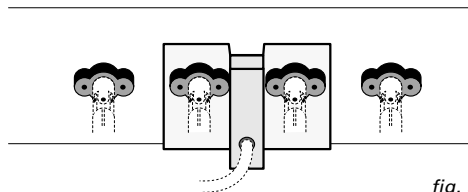

fig. 9
5. Screw the attachment plate and the cardan holders firmly onto the dashboard again (see fig. 9). Take care that the cardan holders are fitted in the correct position.